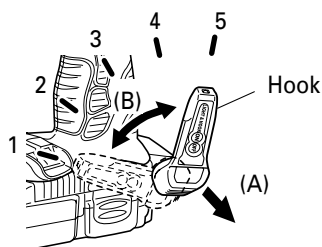

Fig. 5
- (1) Operating the hook
- (a) Pull out the hook toward you in the direction of arrow (A) and turn in the direction of arrow (B). (Fig. 5)